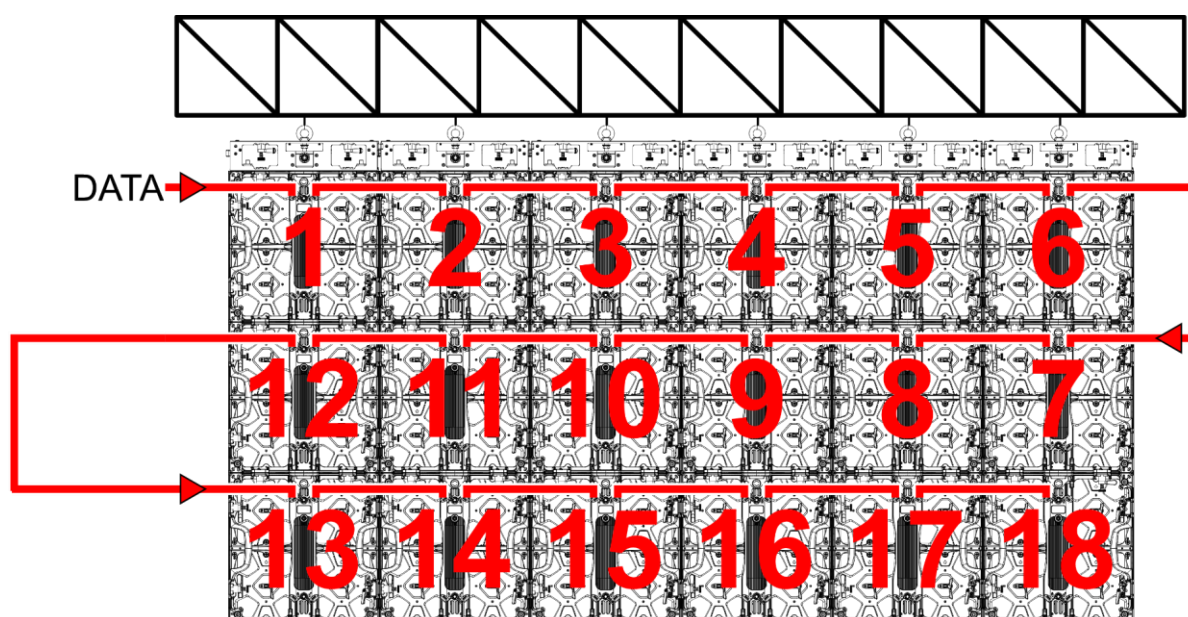

Fig. 61
- 03) Connect the **Data In/Out (04)** of the first device to the **Data In/Out (02)** of the next device in the setup.
- 04) Repeat step 3 to connect all other devices in a daisy-chain as shown in Fig. 61.
- 05) Connect the **Data In/Out (02)** of the first device to the personal computer.